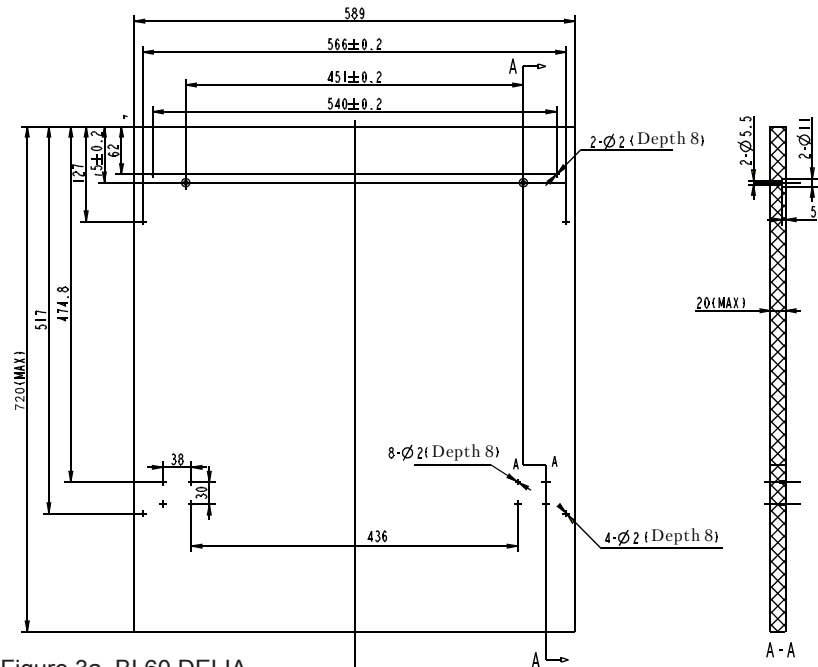

Figure 3a. BI 60 DELIA.
1. The decorative wooden panel to be attached to the door of the dishwasher shall be prepared according to drawings as shown in Figures 3a and 3b.